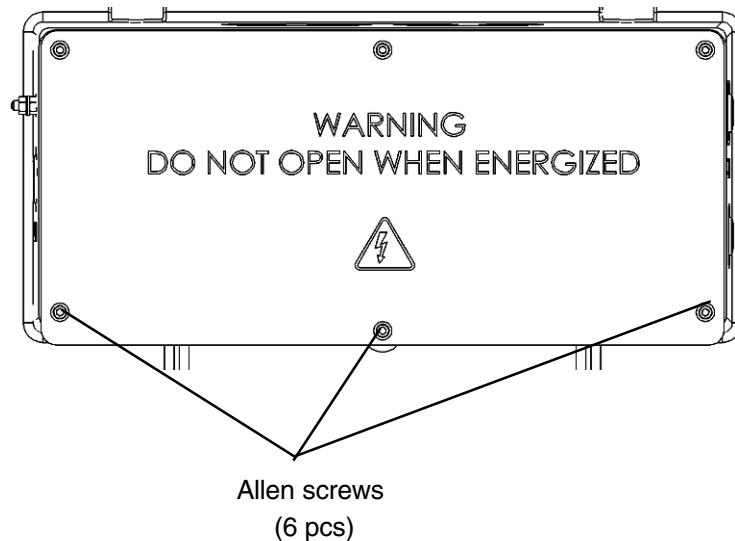

Fig. 15-10: Cat 200 Junction box
- Open the junction box by loosening the 6 Allen screws (fig. 15-10) utilizing the (imperial) Allen key shipped with the instrument.